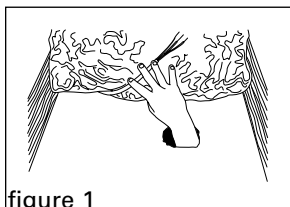

figure 1
1. If there is not a hole where you want to hang the fan, cut a hole in the sheetrock using the electrical box provided as a template. If no electricity is available, you may need to use a swag kit or surface mount wire cover to get power. Be cautious of sharp teeth and screws on each end of the Saf-T-Brace®. Clear the installation site of any insulation, wiring and existing lightweight bar hanger (figure 1). Remove wiring from the sides of the joist.